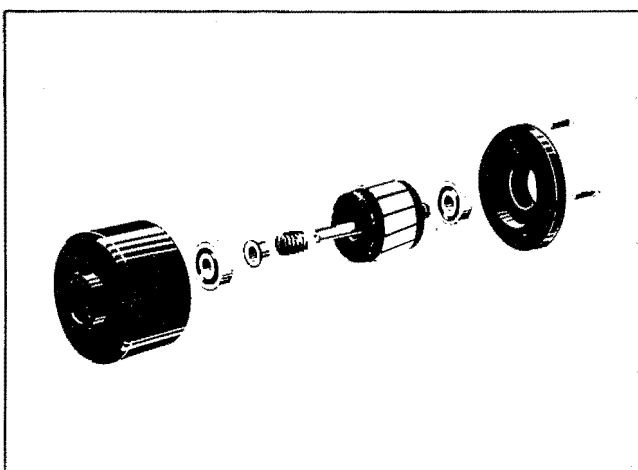

Figure 35
c. Using bearing remover T100360, remove the two ball bearings, and place them in dustproof containers until ready for cleaning and inspection as described in this section, paragraph 3.b.(2)(a). (See figure 35.)